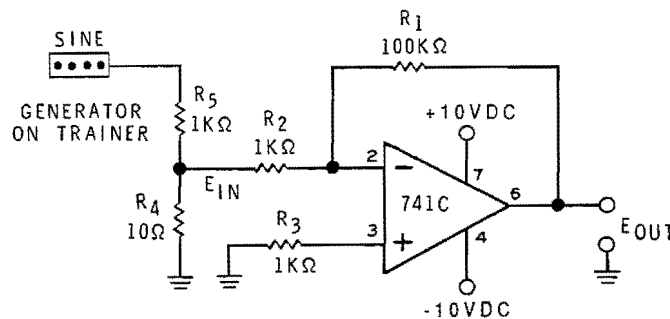

Figure 3-57
19. Construct the circuit shown in Figure 3-57. Turn on the Trainer. Set the Generator frequency to 1 kilohertz.